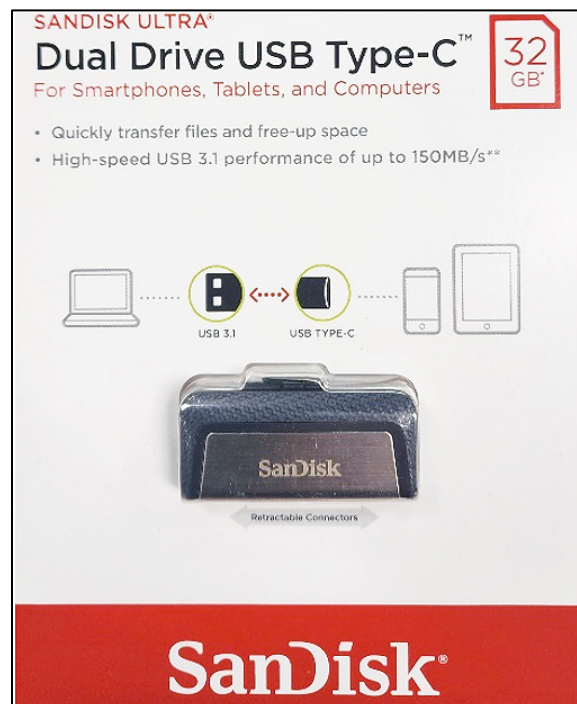

Figure 1
- This reprogram requires the use of two (2) 32GB Dual Type-A/Type-C USB drives. The in-vehicle infotainment system will not recognize a 64GB USB drive.
- Special tool USB drive NI-52727-32DD has been shipped to each dealer (Figure 1).